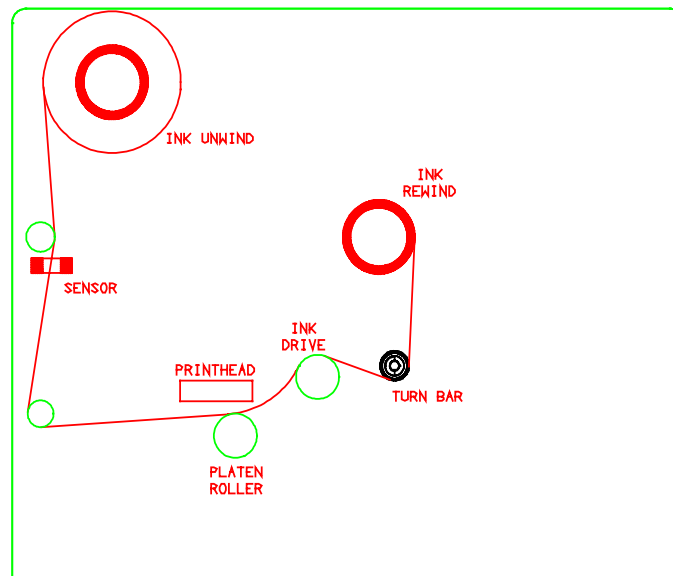

Figure 2
- 1) Unwrap the ink ribbon and put it on the ink-ribbon supply arbor (*Figure 2*) by pressing it on to the arbor when the three slots are lined up.
- 2) Make sure the ink ribbon comes off the roll in the direction shown below and is threaded as illustrated (*see Figure 2*).